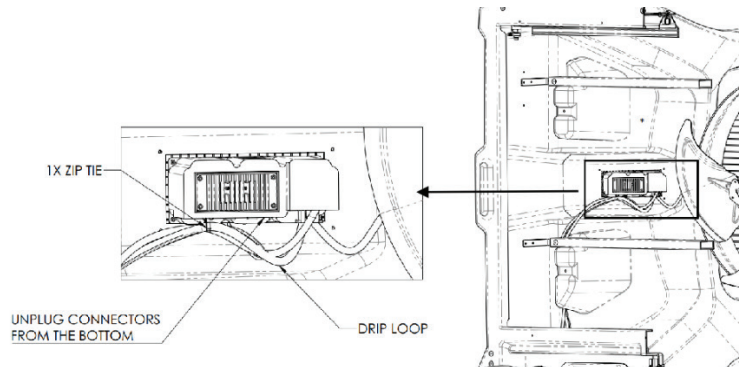
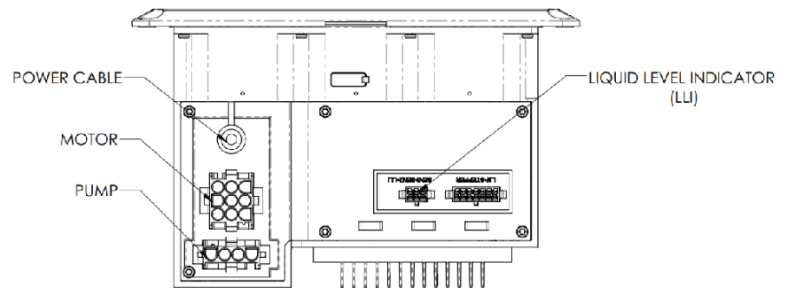

Figure 2: Portacool Apex 1200-6500 Interior View with Control Unit Wiring Details.
Figure 3: Portacool Control Unit Connectors (Bottom View).
2. Once the control unit is accessible from inside the unit, note that the wires have been bundled and tied to the controls using a zip tie, routed in a downward and then upward direction, forming a drip loop path (Figure 2). This prohibits moisture ingress inside and unit mitigating risk of component damage. From inside of the unit cut the 1X zip tie. Unplug the Power cable, Motor, Pump and LLI connectors from the bottom of the Control unit (Figure 3).
5. Attach all the connectors securely to the new Portacool replacement Controls from inside the Portacool unit (Figure 3).
6. Carefully gather the wires into a bundle and fasten them to the controls using a zip tie, ensuring to replicate the drip loop path as shown in Figure 2. Take caution to eliminate any possibility of loose wires obstructing the Fan's path.